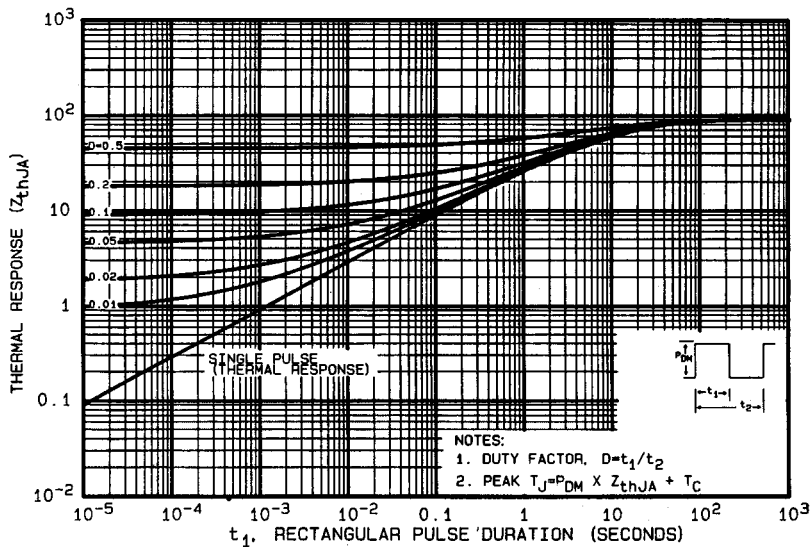

Fig. 9 — Maximum Effective Transient Thermal Impedance, Junction-to-Ambient Vs. Pulse Duration
① Repetitive Rating: Pulse width limited by maximum junction temperature (see figure 9) Refer to current HEXFET reliability report
② @ $V_{DD} = 25\text{V}$. Starting $T_J = 25^\circ\text{C}$